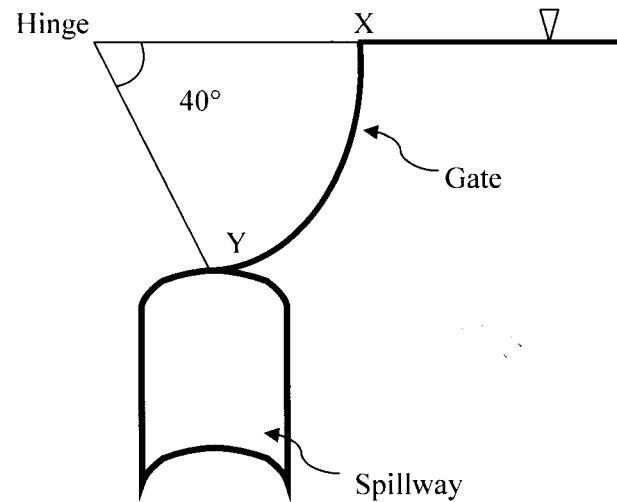

Fig.Q1b / Rajah Q1b
- b) A tainter gate XY, 3 m long is mounted on a spillway as shown in figure Q1b below. With the water level as shown, determine the magnitude and direction of the resultant force exerted on the gate.